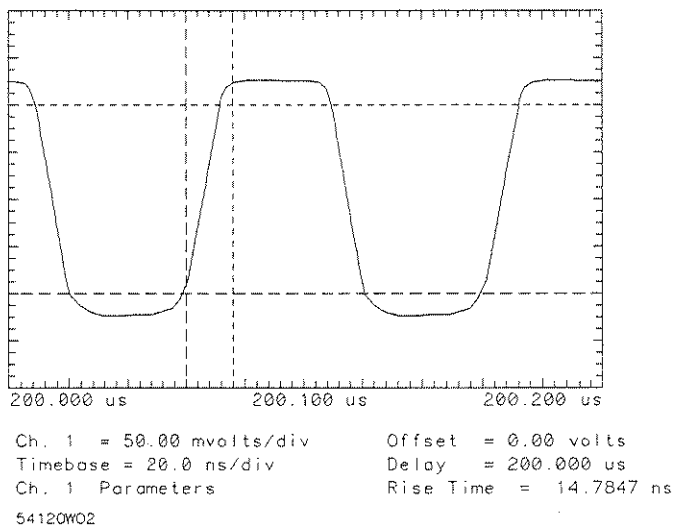

Figure 8-4. Risetime Measurement with Jitter (Averaged Mode)
Note that after several acquisitions, the leading and lagging edges of the square wave are sloped. See figure 8-4. This is caused by averaging when jitter is present.
- Note that the risetime is approximately 15 ns. Refer to figure 8-4.